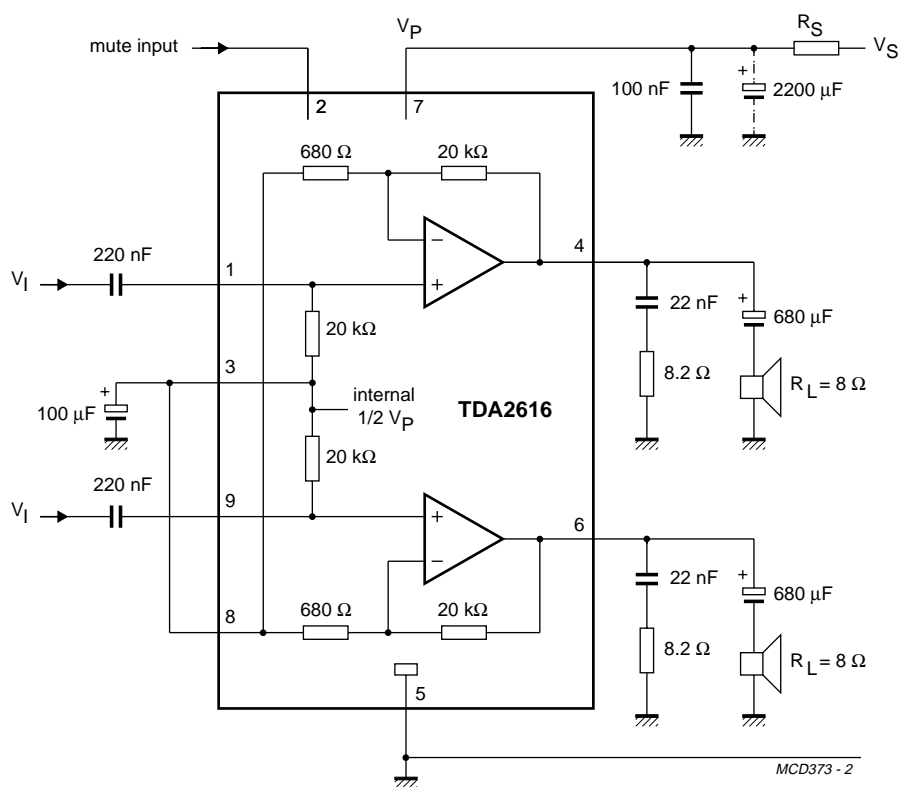

Fig.5 Test and application circuit with asymmetrical power supply.
6. $V_{\text{P}} = 24 \text{ V}$; $R_{\text{L}} = 8 \Omega$; $T_{\text{amb}} = 25 \text{ }^\circ\text{C}$; $f = 1 \text{ kHz}$; asymmetrical power supply $I_{\text{MUTE}} < 30 \mu\text{A}$. See Fig.5